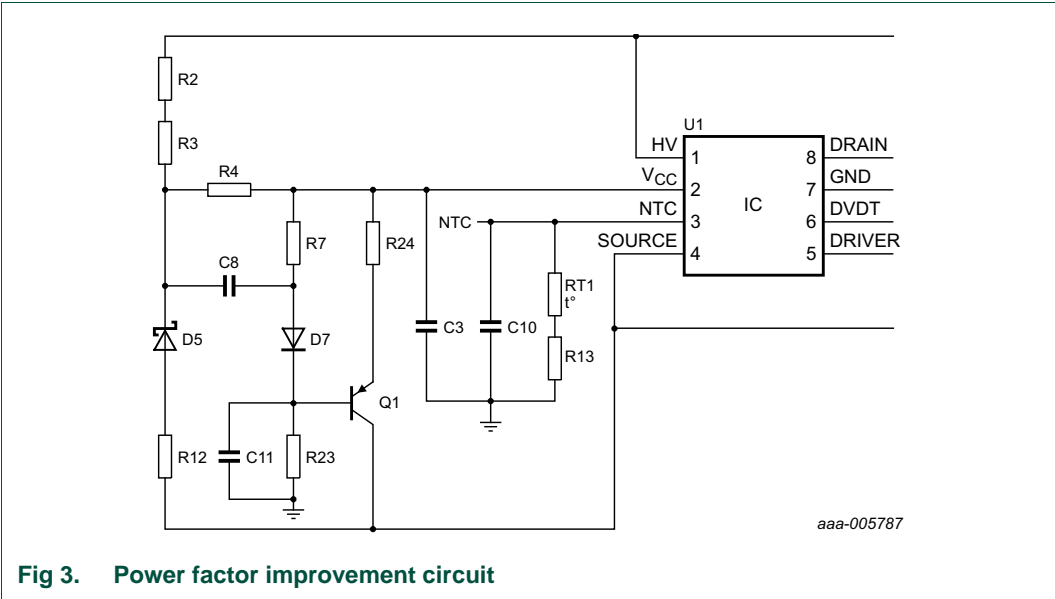

Fig 3. Power factor improvement circuit
This demo board is designed for high-power operation (PF > 0.9 at 230 V (AC)) and low THD performance (THD < 30 % at 230 V (AC)). The application circuit that enables these performances is shown in Figure 3.